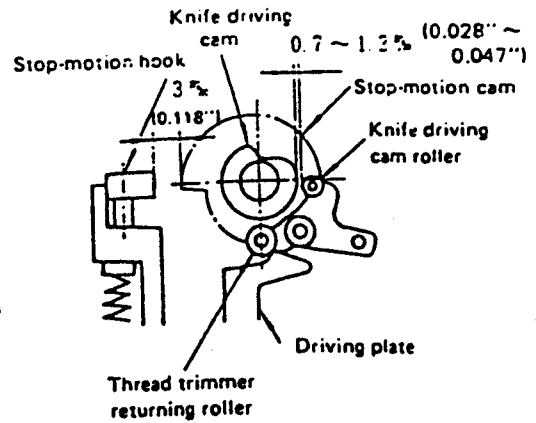

Fig. 8
- If the clearance is adjusted to 3 mm (0.118") or less; A neutral state will result when the machine runs at low speed, causing the machine to idle and stop. Further, the clearance of 0.7 to 1.2 mm (0.028" ~ 0.047") between the knife driving cam and the knife driver cam roller will give at the time of low-speed machine running with resultant striking noises. Also the stop-motion cam will interfere with the stop-motion hook at the time of stop motion. (Fig. 8)